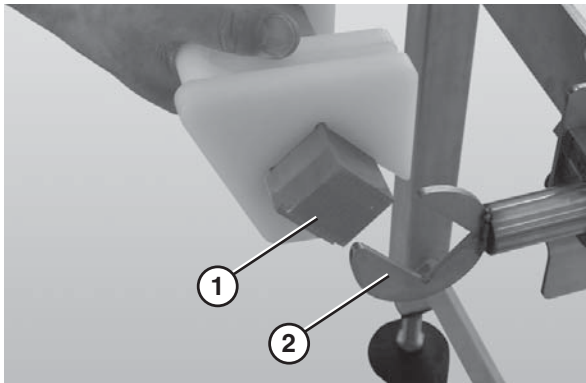

Figure 24
3. Attach the nose bar transfer post (Figure 24, item 1) to the nose bar idler shaft hands (Figure 24, item 2).